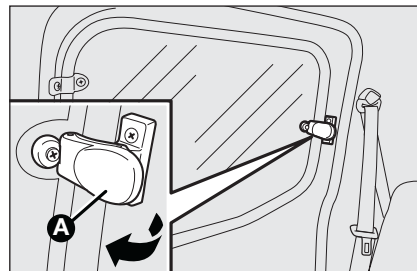

fig. 60
- ☐ move lever **A-fig. 60** outwards until the window opens completely;